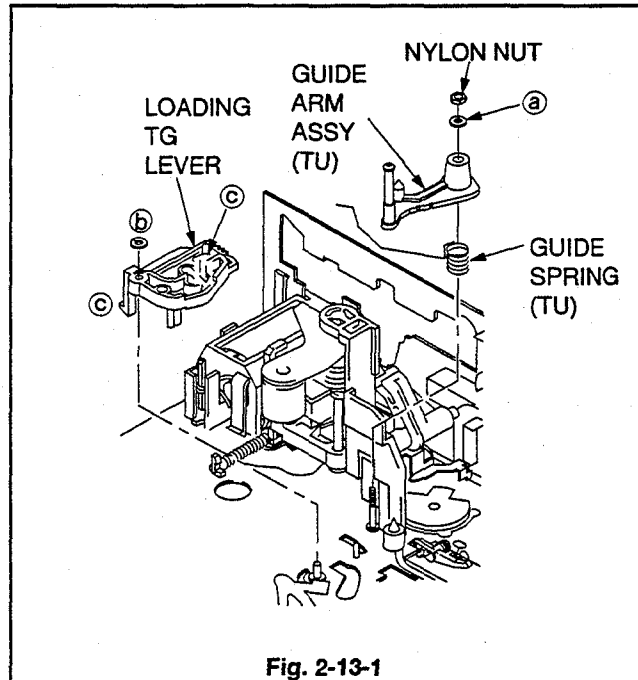

Fig. 2-13-1
1. Remove the NYLON NUT, shown in Fig. 2-13-1 to remove the SL WASHER (a), the GUIDE ARM ASSY (TU) and GUIDE SPRING (TU).
2. Remove the CUT WASHER (b) holding the LOADING TG LEVER shown in Fig. 2-13-1.
3. To remove the two LOADING TG LEVER unfasten Catches (c) of the LOADING TG LEVER shown in Fig. 2-13-1.
2. Install the LOADING TG LEVER shown in Fig. 2-13-1.
3. Install the CUT WASHER (b) shown in Fig. 2-13-1 to fasten the LOADING TG LEVER.
5. Fix the GUIDE ARM ASSY (TU) with the GUIDE SPRING (TU) attached, to the shaft of the MAIN PLATE ASSY, as shown in Fig. 2-13-1.
8. Install the SL WASHER (A) and NYLON NUT shown in Fig. 2-13-1.
9. Perform "Adjustment of GUIDE ARM ASSY (TU) Height" in Para. 3-5 of "Interchangeability Adjustment of the Mechanism".